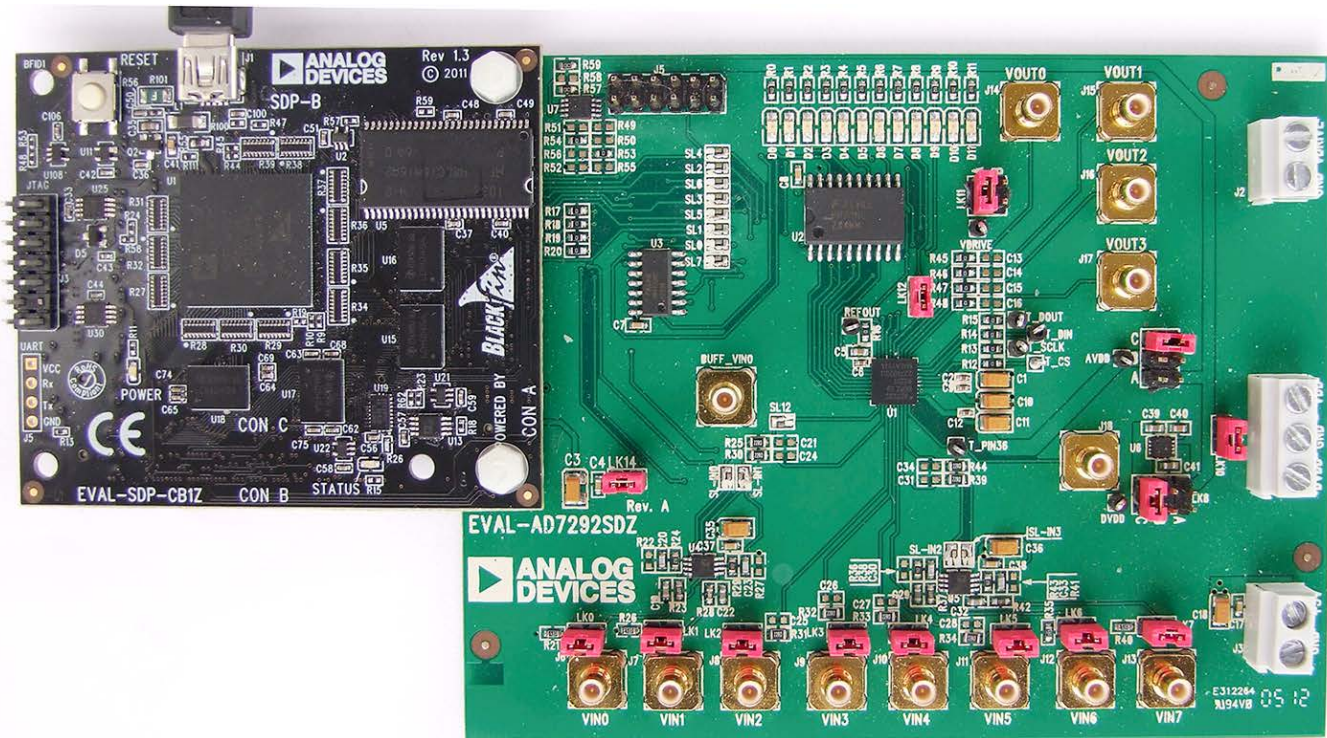

Figure 2. Hardware Configuration—Setting Up the EVAL-AD7292SDZ (EVAL-SDP-CB1Z on Left and EVAL-AD7292SDZ on Right)
2. Connect the EVAL-SDP-CB1Z board to the EVAL-AD7292SDZ board as shown in Figure 2.
1. Connect the EVAL-SDP-CB1Z board to the EVAL-AD7292SDZ board as shown in Figure 2.